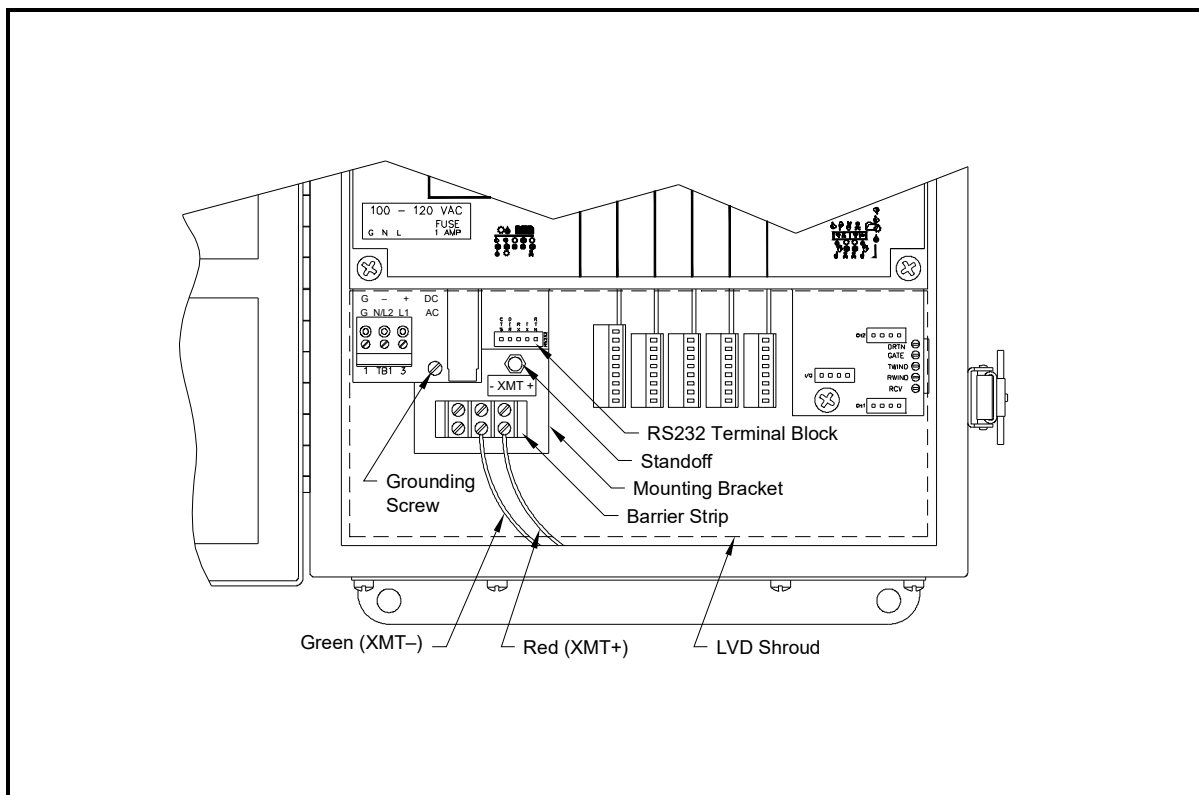

Figure 9: Interface Converter Mounting
A special bracket containing the serial interface converter and a three-terminal barrier strip is mounted inside the Model GF868, just below the RS232 terminal block (see Figure 9). The standard **RS232** terminal block is wired to the input of the serial interface converter, and the RS485 output of the serial interface converter is wired to the barrier strip.
Standard factory wiring of the RS485 serial interface is configured for point-to-point wiring. That is, a single Model GF868 may be wired directly to a single personal computer. To connect the RS485 serial interface, refer to Figure 9 on page 73 and complete the following steps:
3. Remove the serial interface converter **mounting bracket** by removing the standoff located just below the **RS232** terminal block and the grounding screw on its left (see Figure 9 on page 73).